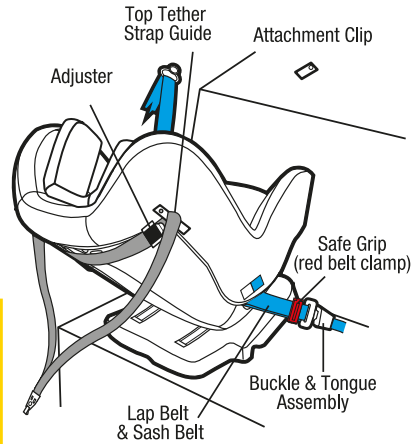

Figure 6
Step 5: Locate the adjuster at the side of the restraint and secure using the Top Tether Strap Guide (refer Figure 6 & 7).